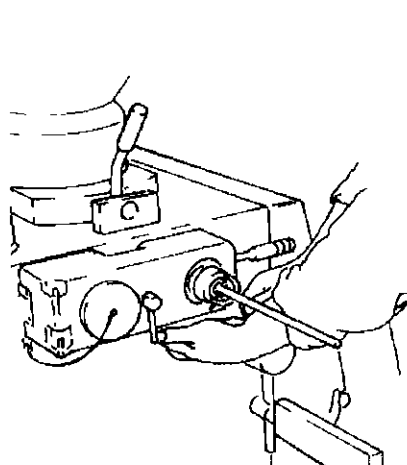

Fig. 4-7
- Hold the linking head firmly either with the universal spanner (order no. 134.030-010 or by pulling the locking lever on the underside of the linking gear (Fig. 4-7). **ATTENTION! Left-hand thread!**